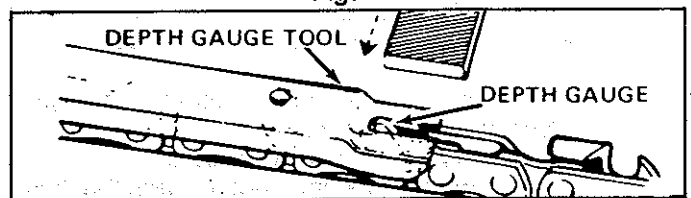

Figure 34
- a.) Place depth gauge tool over each cutter depth gauge. Figure 34.
- c.) Maintain rounded front corner of depth gauge with a flat file. Figure 34 & 35.